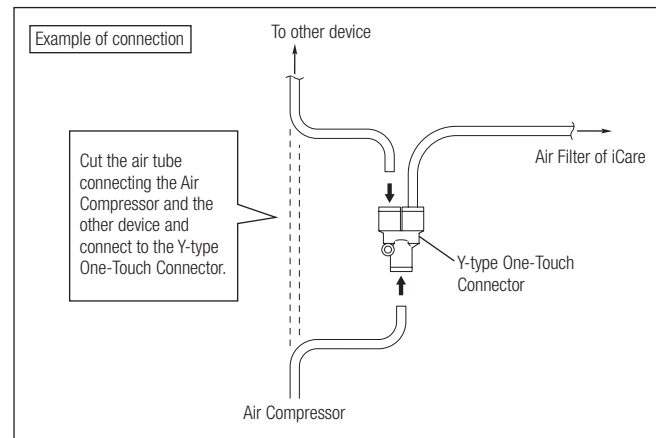

Fig. 2
- 2) Connect the Y-type One-Touch Connector to the air source (Air Compressor) as shown in Fig. 2.